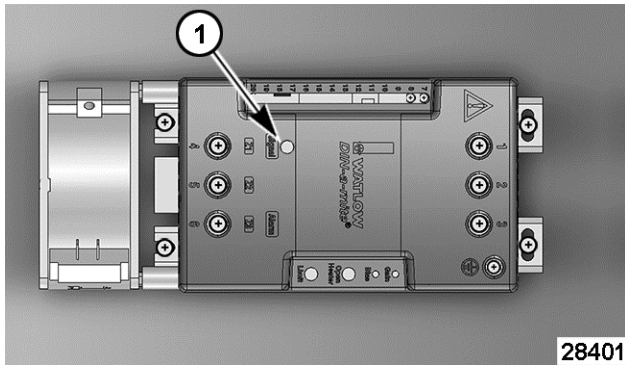

Fig. 54
- 3) Verify LED (green) [1] Fig. 54 on Solid State contactor (3CON) is lit during heating. LED will be constantly lit during initial heat up and temperature recovery after door has been opened to allow cooking compartment cool down then closed (timer must be on and door closed). LED will blink to indicate Solid State contactor (3CON) is pulsing power to the load contacts on regulating contactor (2CON).